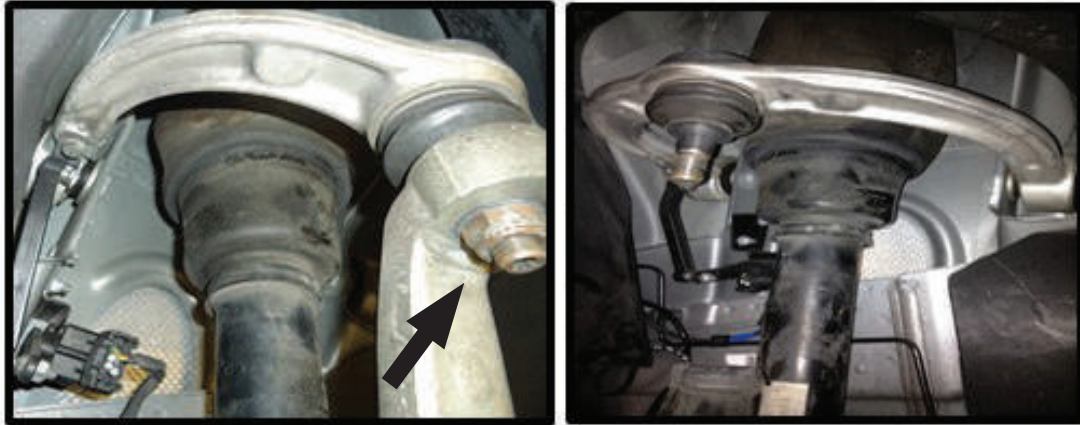

FIGURE 2
5. REMOVE THE NUT FROM THE BALL JOINT AND SEPARATE FROM THE SPINDLE ASSEMBLY. (FIGURE 2)